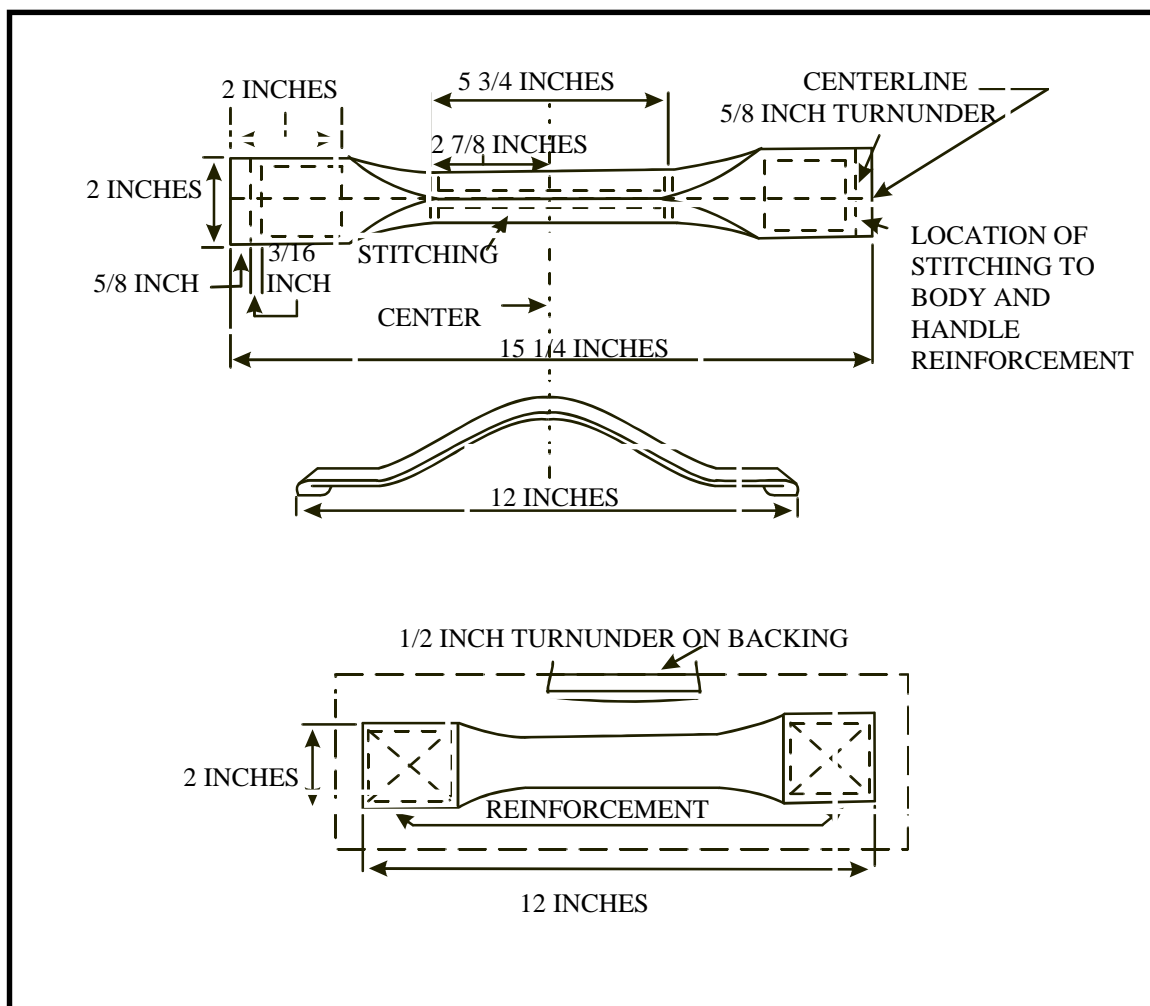

Figure 13-19. Stitched-grip webbing handle
b. **Stitched-Grip Webbing Handle.** A stitched-grip webbing handle (Figure 13-19) is used when the strain is on the horizontal plane of the item. To make this handle--
- (1) Cut a piece of 2-inch-wide heavy cotton webbing 15 1/4 inches long.
- (2) Fold the webbing in half, and mark the center.
- (3) Draw straight chalk lines across the webbing 2 7/8 inches to the left and right sides of the center.
- (4) Fold the edges of the webbing to the center between the lines. Taper the webbing beyond the lines.
- (5) Stitch along the edges of the webbing between the lines. Stitch on top of each chalk line twice.
- (6) Cut a piece of duck 5 1/2 inches wide and 40 inches long to use as reinforcement backing. Turn under the raw edges 1/2 inch, and crease the folded edges in place.
- (7) Center the backing under the area on the canvas item where the handle will be attached.
- (8) Stitch the backing in place.
- (9) Turn under each end of the handle 5/8 inch.
- (10) Center the handle on the canvas item and backing so that the ends are 12 inches apart. Leave some slack.